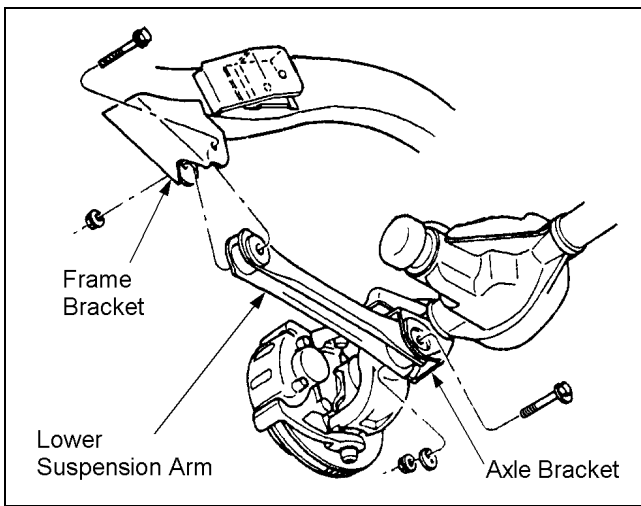

Figure 5
- 4) Remove the nut, cam, and cam bolt from the axle bracket. Remove the nut and bolt from the frame bracket. Remove the lower suspension arm. See Figure 5.